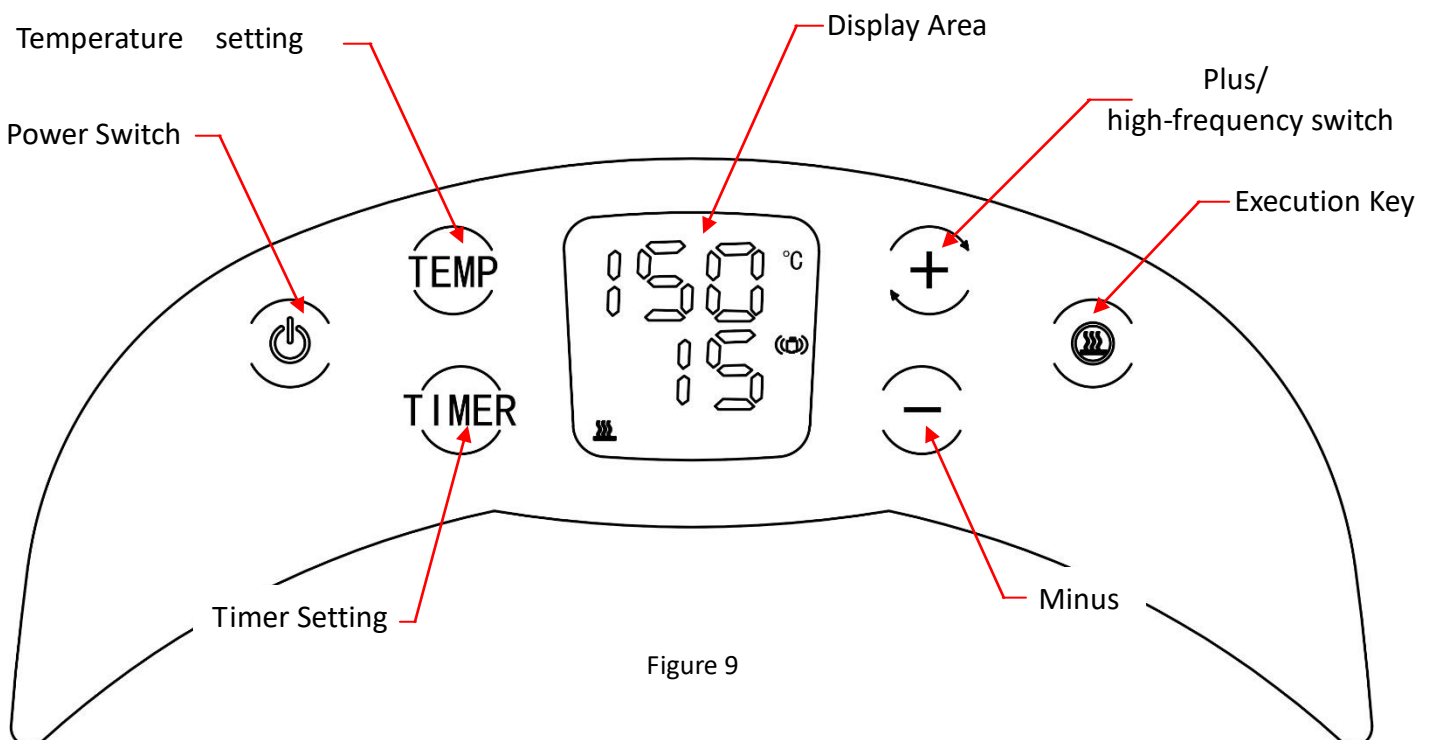

Figure 9
- ① Select a flat desktop and set the working environment with reference to the sixth point " THE SAFE USE INSTRUCCION "
- ② Plug in the power supply, start up, set up the electronic control parameters, wait for heating.
- ③ Refer to the Second point "machinery inner box fittings" to lay the high temperature sponge on the table.
- ④ Put the heat transfer products on high temperature sponge, then put the design paper on the products.
- ⑤ When the temperature reaches the set value, press the equipment on the pattern material, press the hands down for 1 second, release the hands, and press the "" key as shown in figure 9.
- ⑥ When the countdown is completed and the alarm sound is heard, lift the machine and put it back on the "pallet". Tear off the "pattern material ", design transfer is now complete .